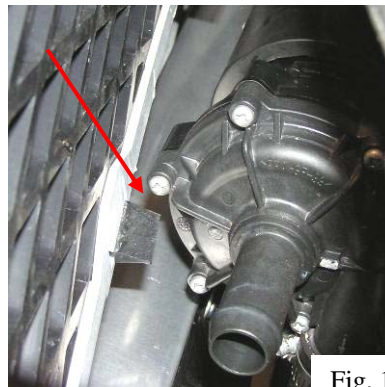

Fig. 10
- 27) If the pump outlet or hose is too close to the AC condenser or grille, rotate the pump in its rubber hanger until sufficient clearance is obtained. Lubrication of the rubber piece may be required in order to rotate or move the pump (Fig. 10).